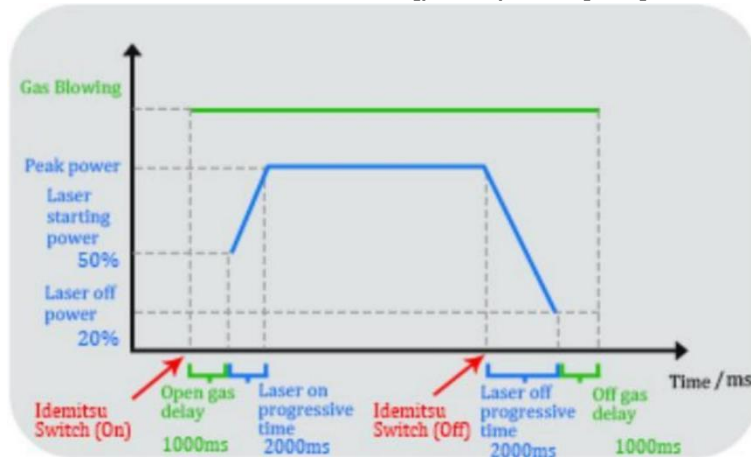

Figure 5.4 Power-to-time relationship
- ① [Laser Power] : Based on the actual laser.
- ② [Temperature alarm threshold] : Maximum temperature of the lens group 100 ° C, maximum temperature of the driver and motor 80 ° C. When this value is set to 0, no temperature alarm is detected.
- ③ [Alarm Level - High/Low] : Set to low when not in use, depending on the external product Settings.
- ④ [Trigger Settings - Click on/Double-click] : In clean mode, control the trigger mode. It is usually set to [Double-click].
- ⑤ [Open gas delay] : Release air in advance before turning off the light.
- ⑥ [Off gas delay] : After turning off the light, postpone turning off the air.
- ⑦ [Center Offset] : [-] indicates a left shift of the light spot, and [+] indicates a right shift of the light spot. Used to adjust the light spot to be centered. At 800mm focus, the range is -15mm to 15mm.
- ⑧ [Scan Correction] : Range 0.01 to 1.50.
⑨ [Maximum Width] : Switch the maximum scanning width when using different focusing lenses.
⑩ [Laser starting /Laser off Power][Laser on /Laser off progressive time]: As shown in Figure 5.4, [Laser on progressive time] represents the time it takes to increase from [Laser starting power] to [peak power], and [Laser off progressive time] represents the time it takes to decrease from [peak power] to [Laser off power]